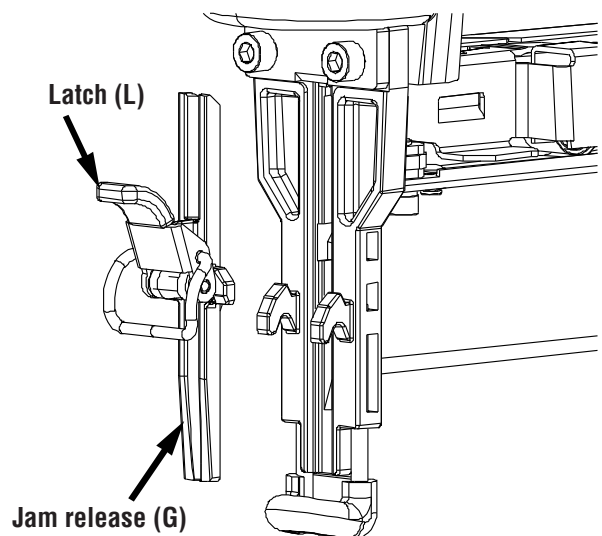

Fig. 18
- 4) Pull up on the latch (L) and open jam release (G) (Fig. 18).
- 6) Close the jam release (G) and the latch (L).